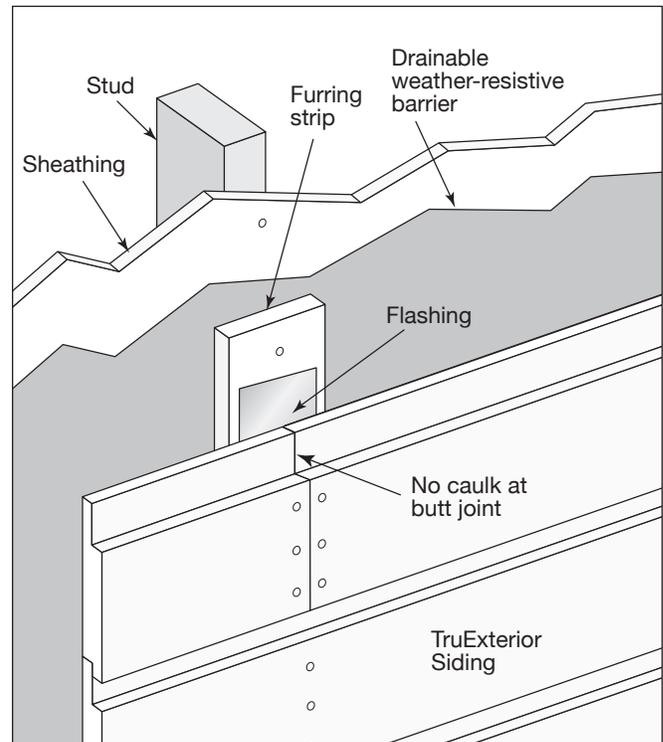

Fig. 44
- For 10" profiles, 3 fasteners must be used through the face of the siding at each furring strip (**Fig. 44**)